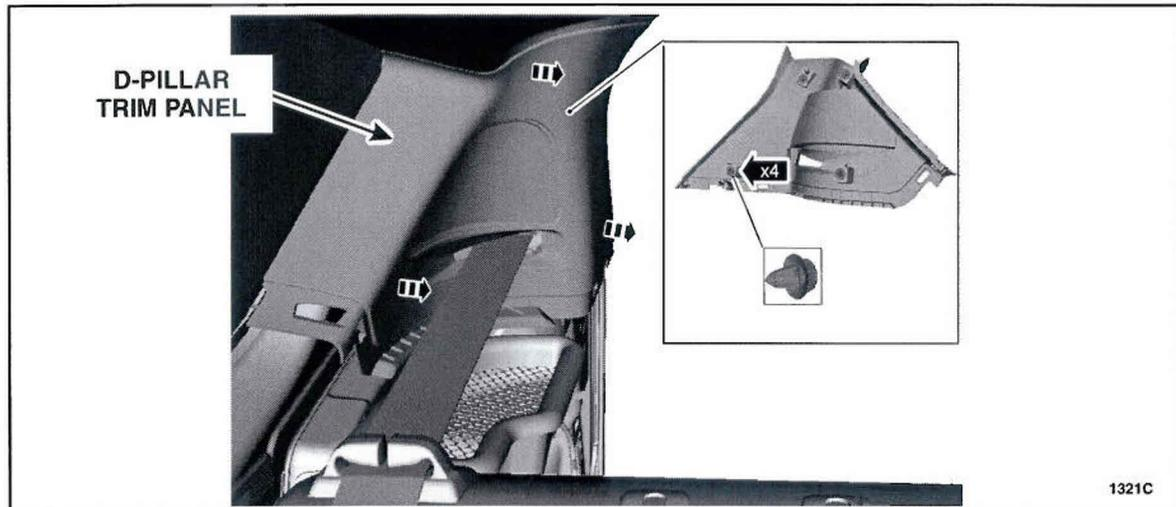

FIGURE 5
7. Position the RH and LH D-pillar trim panels aside. See Figure 5.
29. Install the RH and LH D-pillar trim panels. See Figure 5.